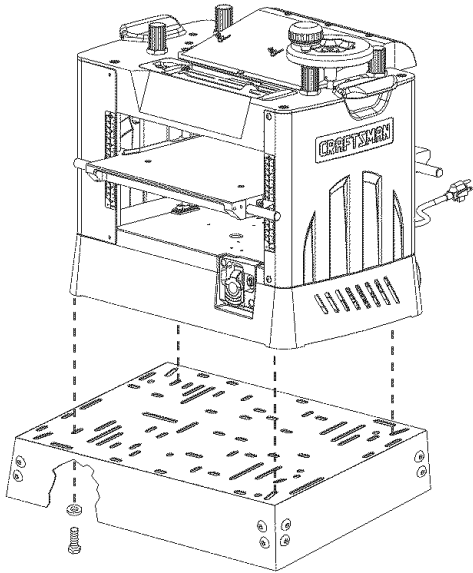

Figure 3 - Mount Planer/Molder to Optional Multi-Purpose Tool Stand Model No. 222240
- Position the Planer/Molder on stand top as shown in Figure 3. Make sure that the four threaded holes on the Planer/Molder base casting are aligned with four slots as shown in Figure 3, page 4.